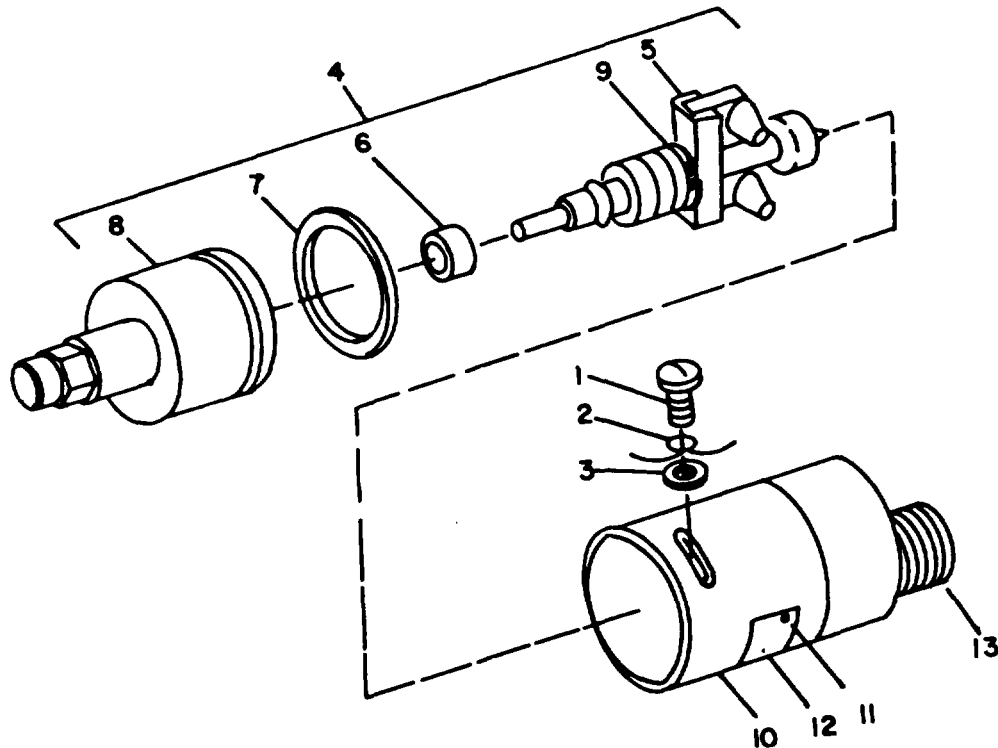

Figure 3-15. Speed Switch, Exploded View (Mechanical Switch) (Sheet 2 of 2)
To obtain the required performance characteristics during tests (3) through (6), adjustments can be made. By loosening screws (1, figure 3-15, sheet 2) and rotating the cap and cover assembly relative to the body assembly, the trip points of all those elements can be raised or lowered. In addition, the trip speed of each individual element can be raised or lowered by removing access screws as shown in figure 3-16 sheet 2 and turning appropriate set screw located beneath cover screws with a 1/16 inch allen wrench.